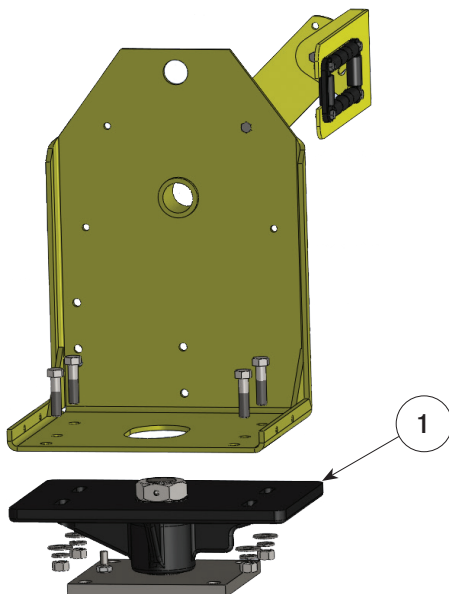

Figure 4-6
4.1.2.1 All 1900 & 2400 Series Cable Reels can be furnished with a pivot base to allow the reel to rotate and keep the extended cable perpendicular to the application. **See Figure 4-6.**